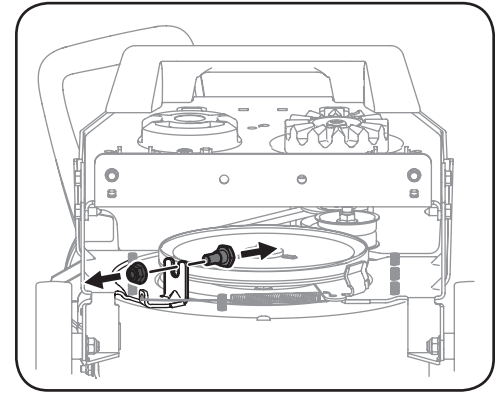

Figure 5-9
6. Remove the belt keeping shoulder bolt and lock nut and retain for later reinstallation. See Figure 5-9.
9. Reinstall the shoulder bolt belt keeper, previously removed. See Figure 5-9.